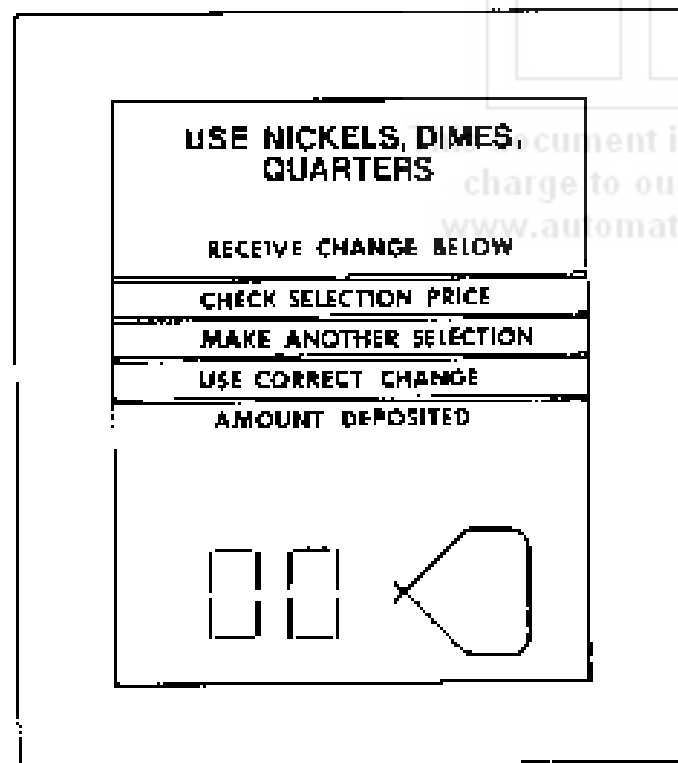

Figure 13.
- B. Press the lever and then the number for the first selection to be checked. The price display will show the price that selection is programmed for (Figure 13). Check the displayed price against the price tab on the shelf for that selection.
Press button 13 and a two digit display "00" will appear on the selection panel which is the product code (Figure 13). Pressing button 13 the display will change by increments of one, going up. By pressing button 14 the increments will come down by one.